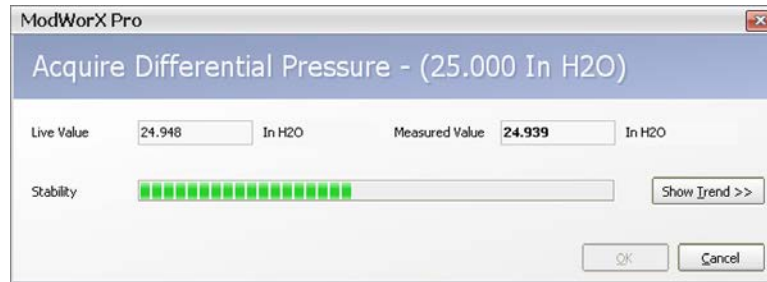
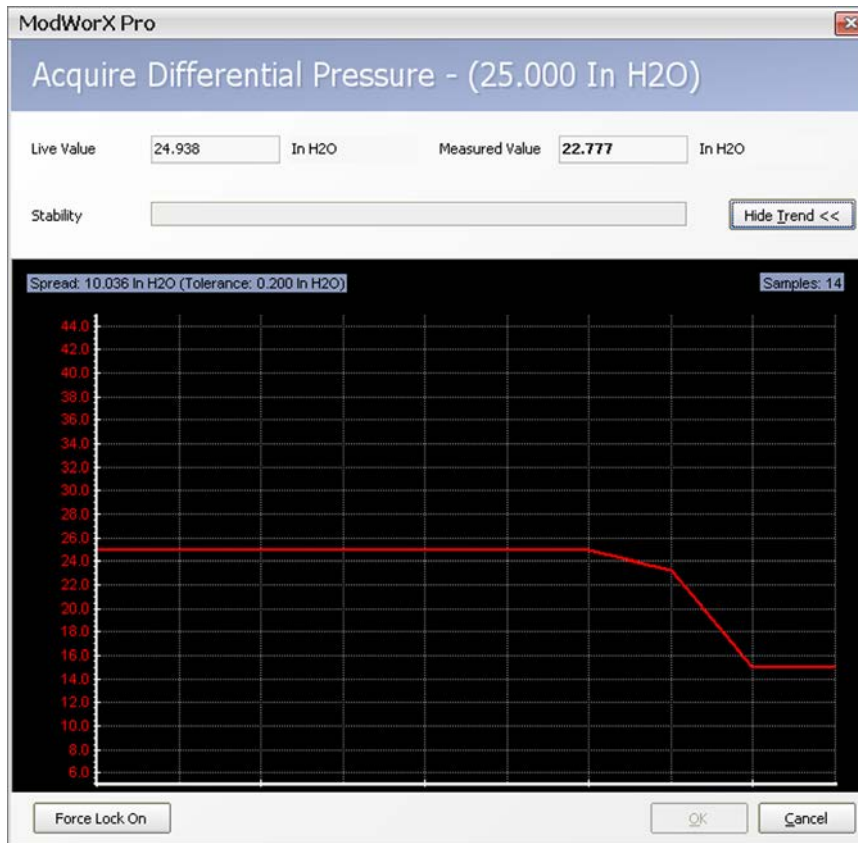

Figure 8.5
Figure 8.6
- 6. Enter the applied pressure value (for example, 25) in this field, and click **OK**. A screen will appear, showing the live value, the measured value, and a stability bar showing the progression of the calibration (Figure 8.5). The live value is the instantaneous reading of the pressure input, and the measured value is the average of all samples read.
- 7. To view the progression of the calibration process in a graph, click **Show Trend** (Figure 8.5). This view also shows the spread of values and the number of sample readings taken (Figure 8.6).